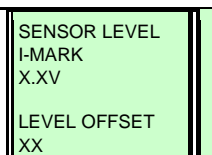

Figure 6-14, Level Offset Menu Screen
2. Using the printer's operator panel, access the Service Mode and then proceed to the Level Offset menu screen (Figure 6-14).